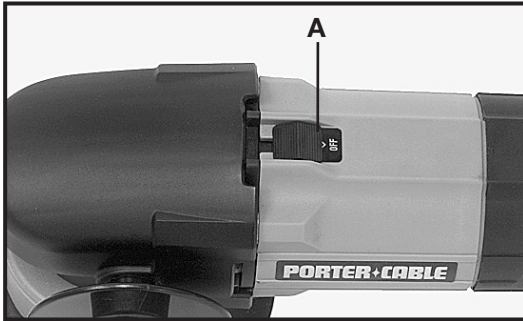

Fig. 2
3. Slide the switch button (A), Fig. 2, forward to start motor. Slide switch button to the rear to stop motor.